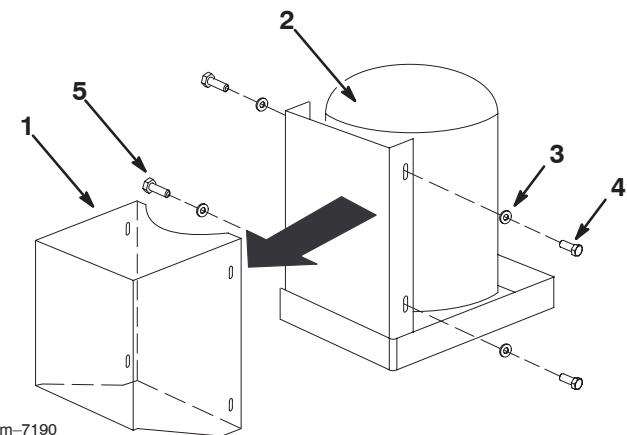

Figure 14
- Remove the 4 bolts and flat washers that hold the cover to the tank/compressor assembly and remove the cover (Fig. 14).